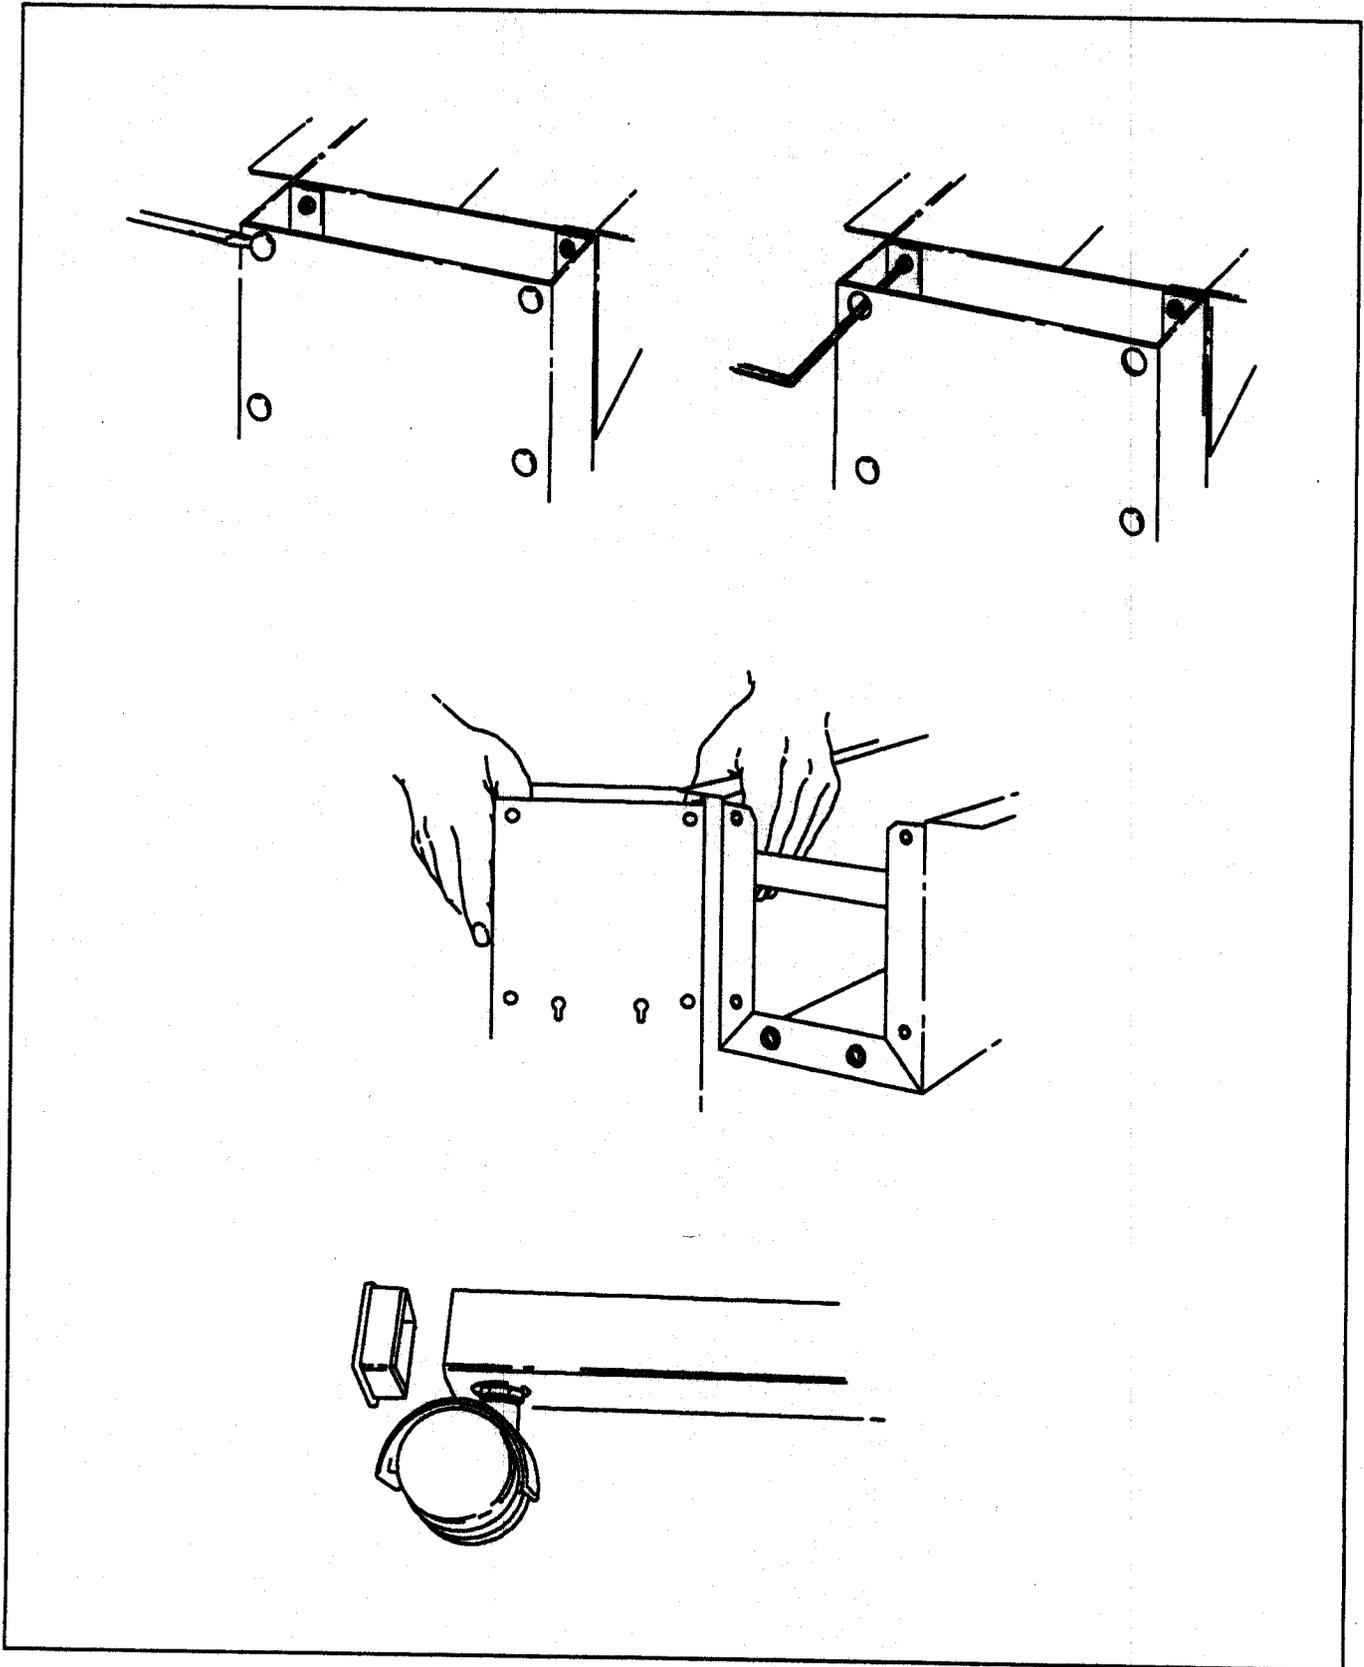

Figure 6-38. Plotter Stand Disassembly
- a. Select one of the plotter's legs and pry the four press-in screw caps from the side of the leg. See Figure 6-38.
- b. Remove the four $\frac{1}{4}$ in. allen-head screws and washers from the plotter leg. See Figure 6-38.
- c. Grasp the plotter base with one hand and one of the plotter's legs with the other hand. Raise the base up while pushing down on the plotter leg. The leg should slide in the screw slot. When the leg has moved to one extreme of the slot, move the leg away from the base to remove it. See Figure 6-38.
- b. Pry the end cap out of the recess in the leg to remove. See Figure 6-38.